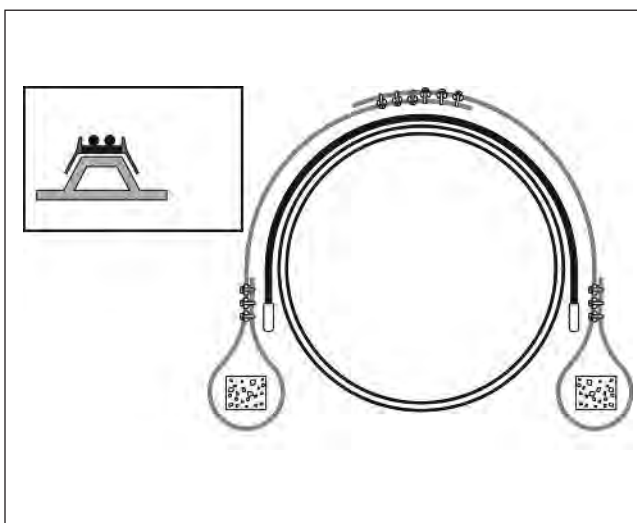

FIGURE 8-8
8.8.1.1.1. The H-shaped positioning clips around the strap are designed to accommodate the wire rope on top of the strap as shown in *FIGURE 8-8*.